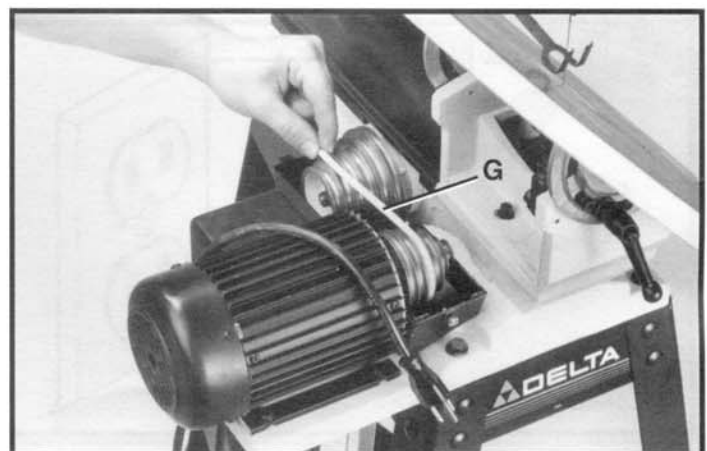

Fig. 19
3. Carefully move belt (G) Fig. 19, to the smaller of the desired pulleys by grasping the belt and rotating the pulleys as shown. Then move the belt to the larger of the desired pulleys.